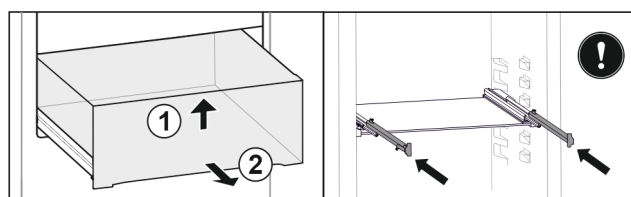

Fig. 89
- Lift up drawer at the front. Fig. 89 (1)
- Remove drawer to the front. Fig. 89 (2)